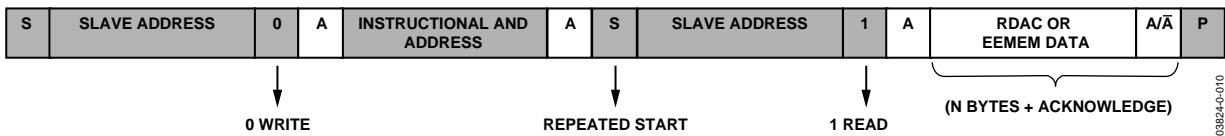
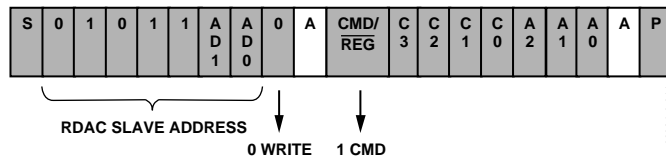
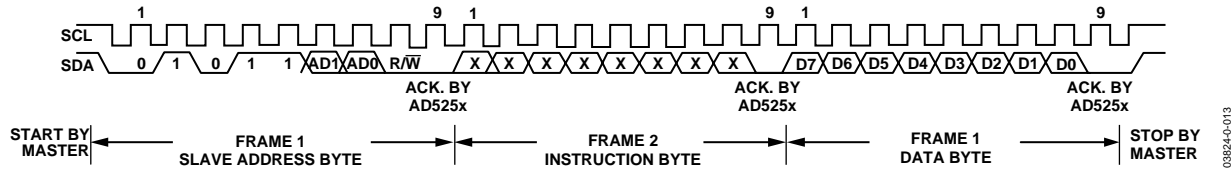
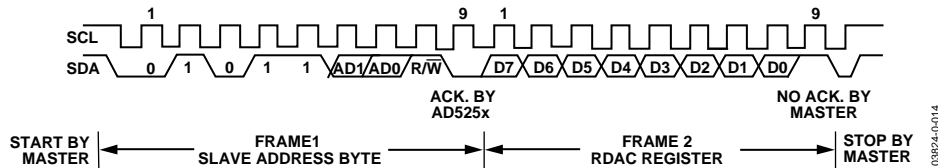

Figure 30. RDAC or EEMEM Random Read
Figure 31. RDAC Quick Command Write (Dummy Write)
Figure 33. General I²C Write Pattern
Figure 34. General I²C Read Pattern
Figure 30 illustrates a random RDAC or EEMEM read operation. This operation allows users to specify which RDAC or EEMEM register is read by issuing a dummy write command to change the RDAC address pointer and then proceeding with the RDAC read operation at the new address location.
The AD5253/AD5254 feature 12 quick commands that facilitate easy manipulation of RDAC wiper settings and provide RDAC-to-EEMEM storing and restoring functions. The command format is shown in Figure 31, and the command descriptions are shown in Table 9.
The first byte of the AD5253/AD5254 is a slave address byte (see Figure 33 and Figure 34). It has a 7-bit slave address and an R/W bit. The 5 MSB of the slave address is 01011, and the next 2 LSB is determined by the states of the AD1 and AD0 pins. AD1 and AD0 allow the user to place up to four AD5253/AD5254 devices on one bus.
AD5253/AD5254 can be controlled via an I²C-compatible serial bus and are connected to this bus as slave devices. The 2-wire I²C serial bus protocol (see Figure 33 and Figure 34) follows:
1. The master initiates a data transfer by establishing a start condition, such that SDA goes from high to low while SCL is high (see Figure 33). The following byte is the slave address byte, which consists of the 5 MSB of a slave address defined as 01011. The next two bits are AD1 and AD0, I²C device address bits. Depending on the states of their AD1 and AD0 bits, four AD5253/AD5254 devices can be addressed on the same bus. The last LSB, the R/W bit, determines whether data is read from or written to the slave device.
enables the RDAC register. The 5 LSB, A4 to A0, designates the addresses of the EEMEM and RDAC registers (see Figure 27 and Figure 28). When MSB = 1 or when the device is in CMD mode, the four bits following the MSB are C3 to C1, which correspond to 12 predefined EEMEM controls and quick commands; there are also four factory-reserved commands. The 3 LSB—A2, A1, and A0—are 4-channel RDAC addresses (see Figure 31). After acknowledging the instruction byte, the last byte in the write mode is the data byte. Data is transmitted over the serial bus in sequences of nine clock pulses (eight data bits followed by an acknowledge bit). The transitions on the SDA line must occur during the low period of SCL and remain stable during the high period of SCL (see Figure 33).
3. In current read mode, the RDAC0 data byte immediately follows the acknowledgment of the slave address byte. After an acknowledgment, RDAC1 follows, then RDAC2, and so on. (There is a slight difference in write mode, where the last eight data bits representing RDAC3 data are followed by a no acknowledge bit.) Similarly, the transitions on the SDA line must occur during the low period of SCL and remain stable during the high period of SCL (see Figure 34). Another reading method, random read method, is shown in Figure 30.
4. When all data bits have been read or written, a stop condition is established by the master. A stop condition is defined as a low-to-high transition on the SDA line that occurs while SCL is high. In write mode, the master pulls the SDA line high during the 10th clock pulse to establish a stop condition (see Figure 33). In read mode, the master issues a no acknowledge for the ninth clock pulse, that is, the SDA line remains high. The master brings the SDA line low before the 10th clock pulse and then brings the SDA line high to establish a stop condition (see Figure 34).